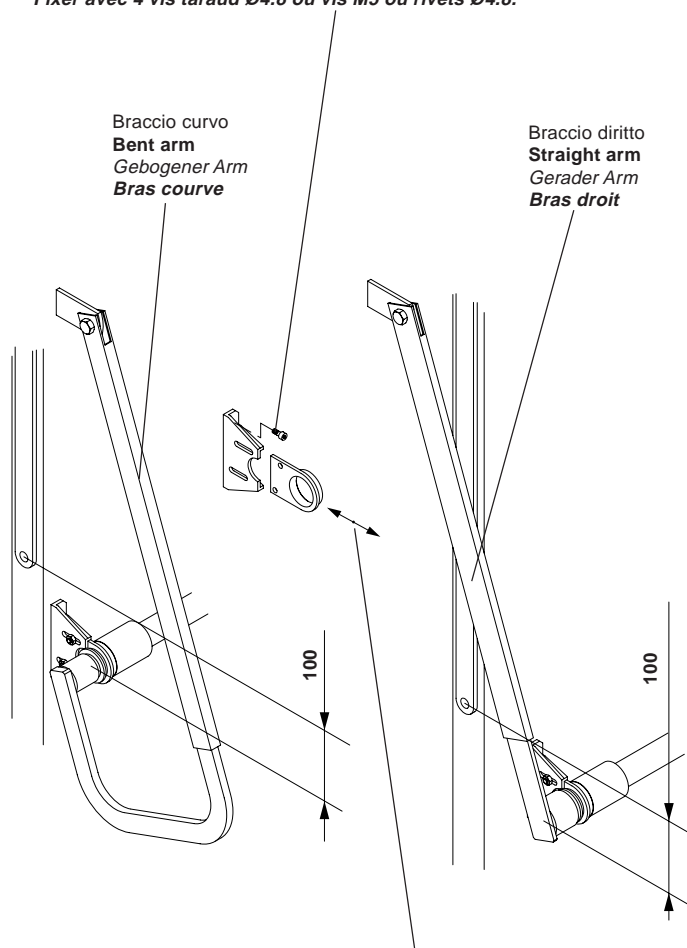

Fig.5
Fissare ora la staffa S mediante viti o rivetti avendo cura di mettere in bolla il tubo T. Quest'ultimo deve anche essere parallelo al telo della basculante; a tal proposito usufruire della regolazione di cui fig. 5.
**Temporarily fasten the flask S with the tube T which is partially inserted both in the flask and in the ratiomotor splined shaft. Determine the tube T measure so that it is aligned to arm B. Now cut the tube to size. Secure the flask S through screws or rivets after making sure the tube T is levelled and parallel to the overhead sheet (for its adjustment see fig. 5)**
**Celui-ci doit être également parallèle au panneau du basculant. Pour cela, utiliser le réglage comme de fig.5.**